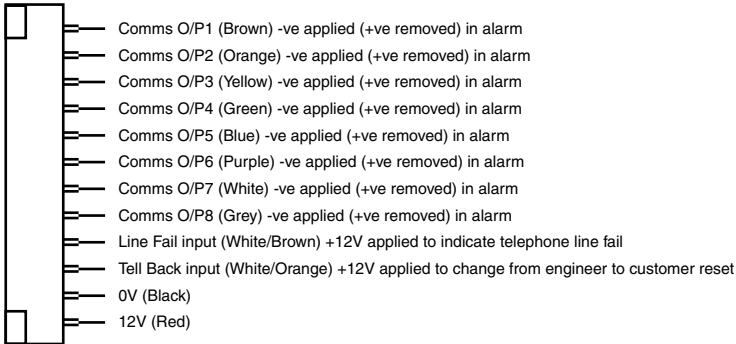

Figure 20. Communications Wiring Harness.
3. Make any necessary connections from the communicator to the Communications Wiring Harness. Figure 20 shows the outputs available on the free ends of the Harness.